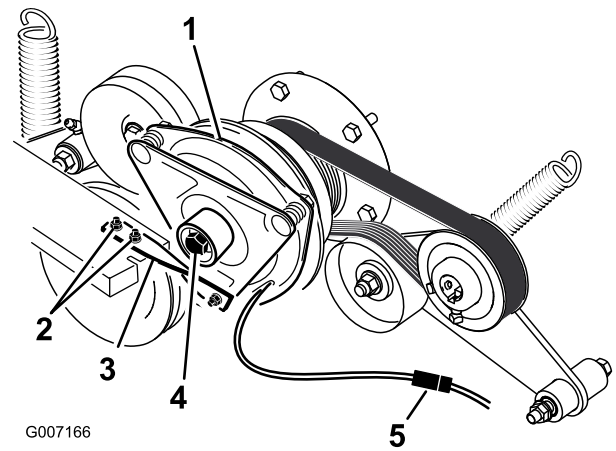

Figure 62
5. Unplug the electric connection for the clutch (Figure 62).
6. Remove the bolts holding the rubber clutch strap to the mower frame (Figure 62).
7. Remove the center bolt holding the clutch to the engine shaft and remove the clutch and key (Figure 62).
14. While holding the crank shaft at the back of the machine, install the center bolt and torque it to 68 N·m (50 ft-lb) (Figure 62).
15. Install the rubber clutch strap to the mower frame with the 2 bolts and nuts previously removed (Figure 62).
17. Plug in the electric connection for the clutch (Figure 62).